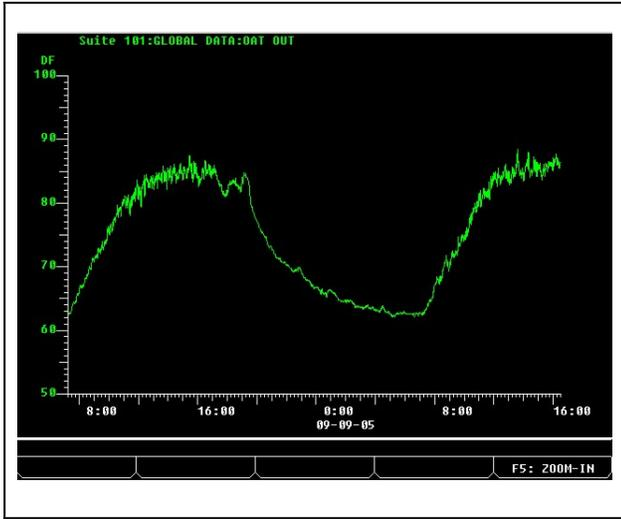

Figure 4-5 - Sample Graph View
- **F3** GRAPH - Displays logged data in a graph format (see **Sample Graph View Figure 4-5**).